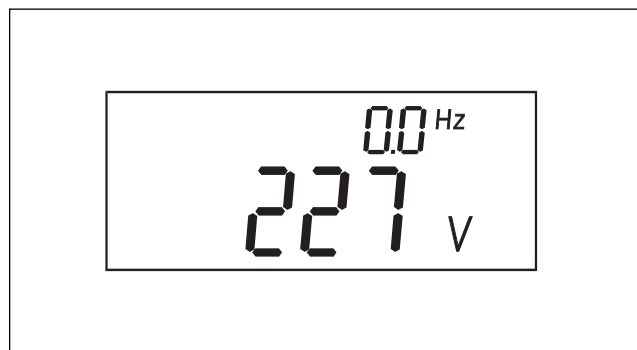

Fig. 6.7
- UNITEST MACHINEmaster can display DC and AC voltages. For DC voltage display, refer to Figure 6.7